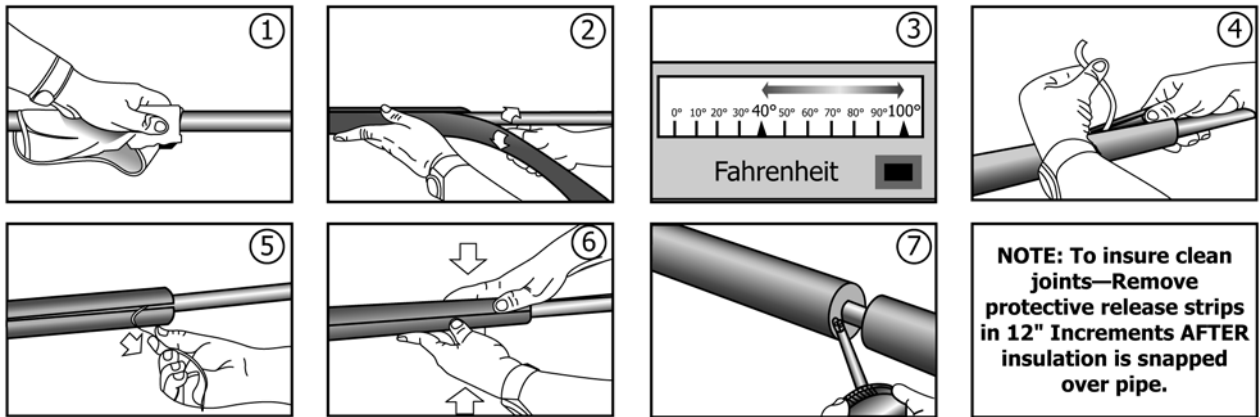

FIG. 4 Apply Pre-Slit/Pre-Glued Insulation to Straight Pipe
10.1.2 Use pre-slit/pre-glued insulation. (Insulation pre-slit with factory applied pressure sensitive adhesive (PSA)). See Fig. 4. Be sure application temperature and manufacturer's installation temperature recommendations are adhered to.